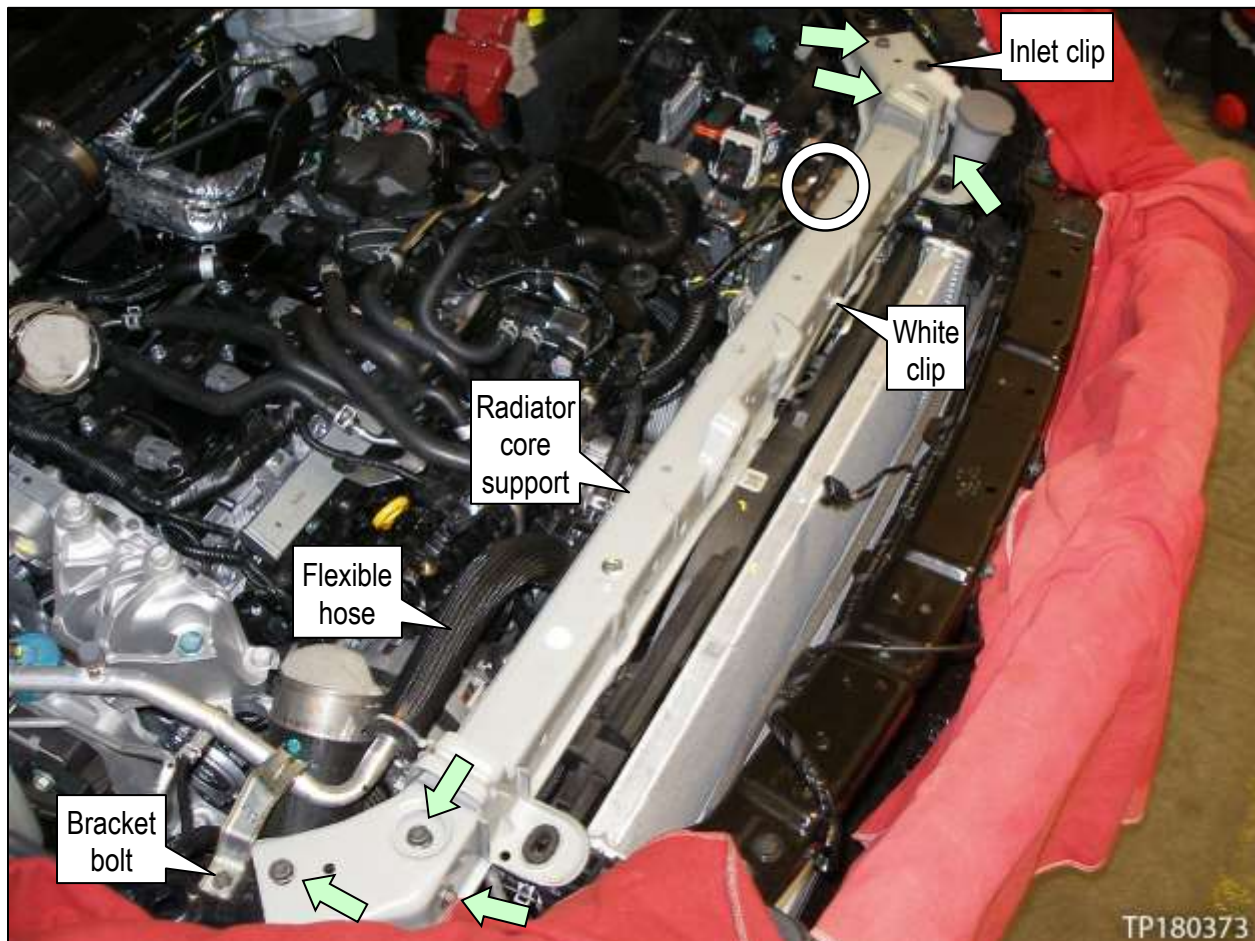

Figure 20
17. Remove the two (2) bracket bolts (see white circle in Figure 20).
18. Remove the six (6) radiator core support bolts (see arrows in Figure 20).